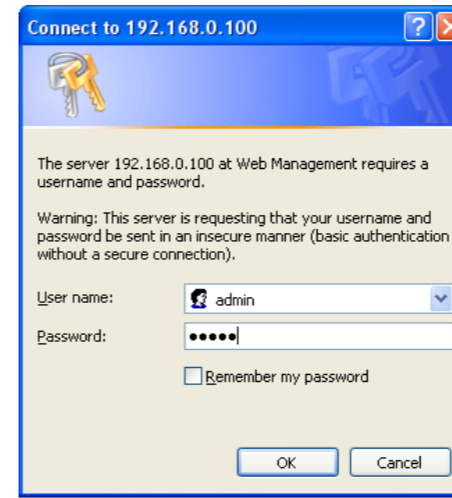

Figure 3-1. Web Login Screen of FGSW-2620VM
2. When the following dialog box appears, please enter the default user name "**admin**" and password "**admin**". The login screen in Figure 3-1 appears.